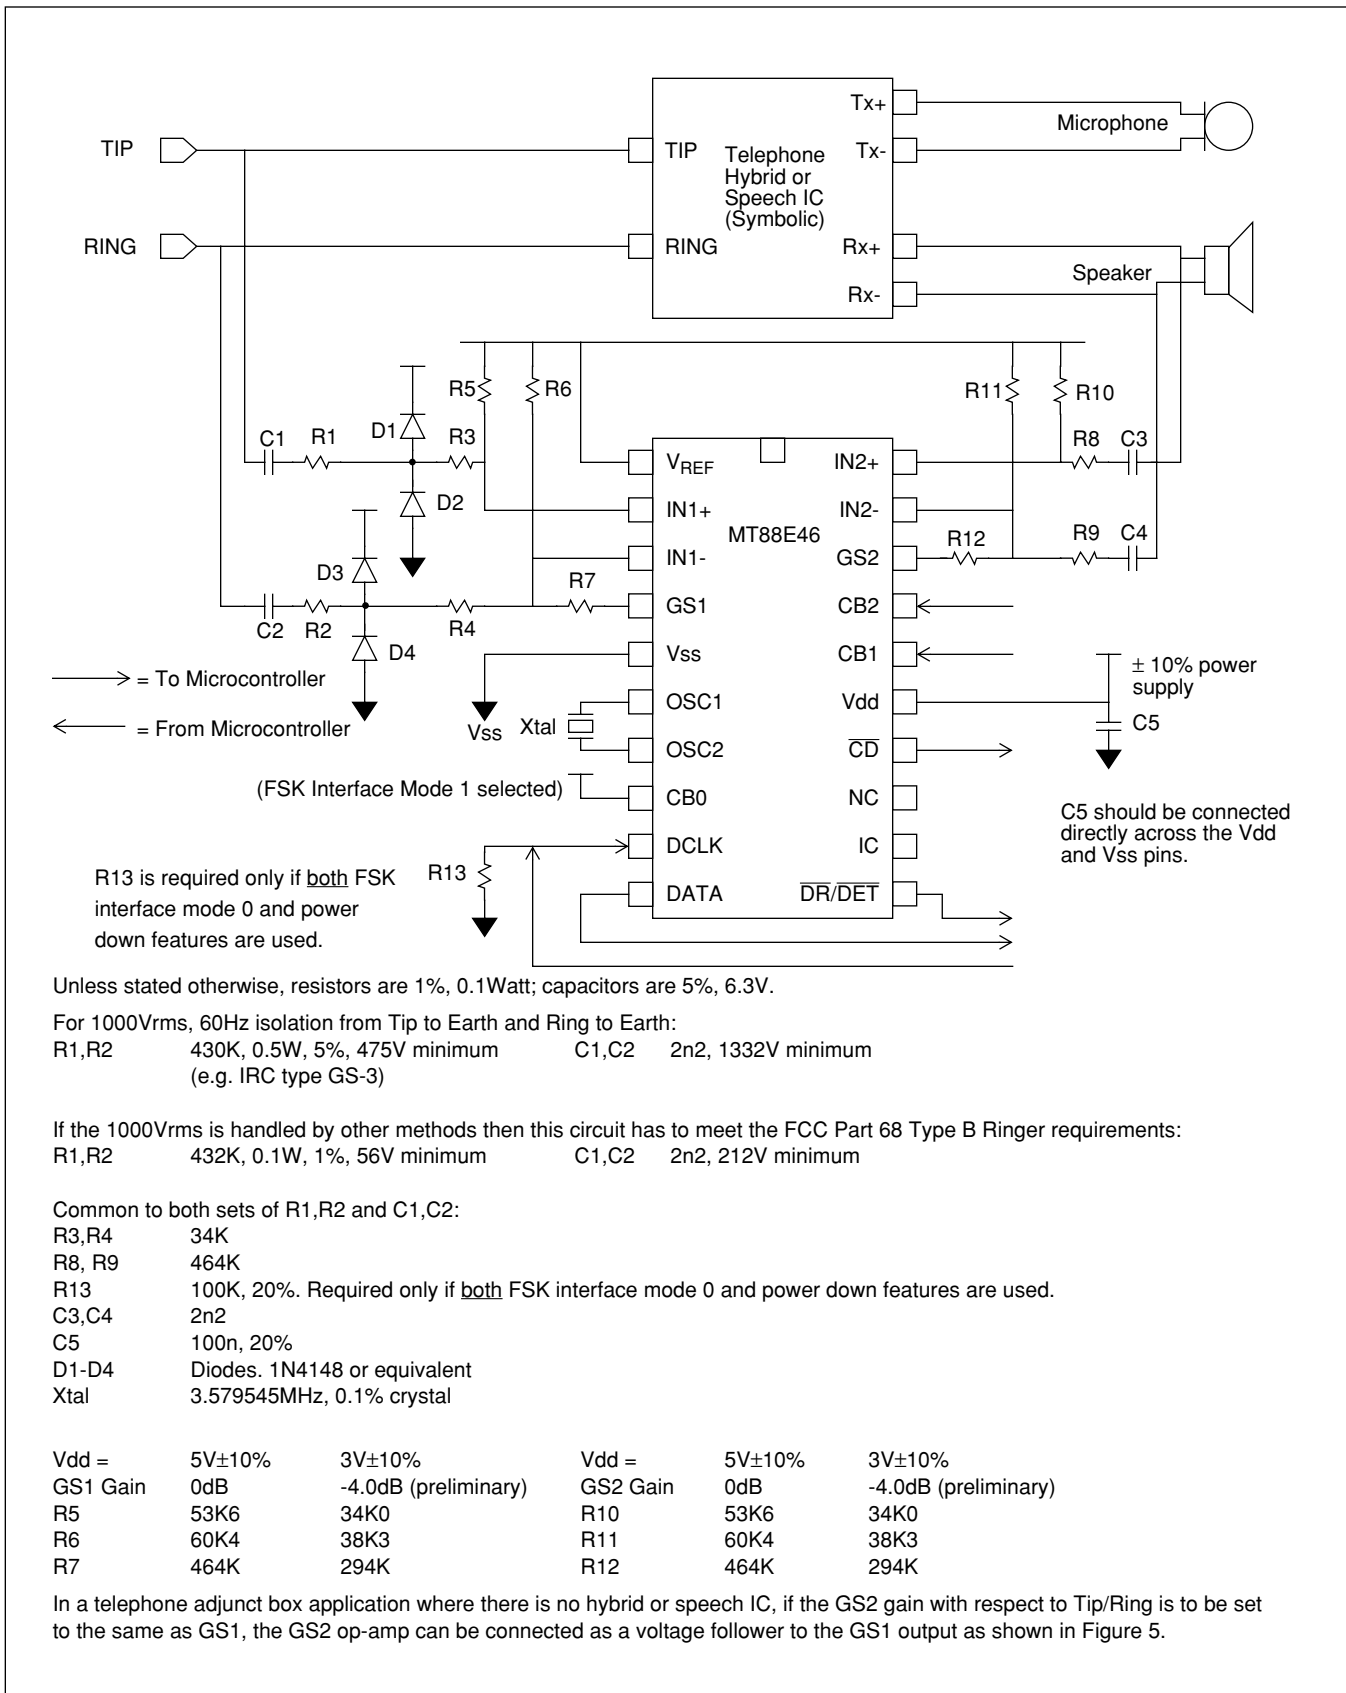

Figure 8 - Application Circuit: MEI Compatible Type 2 Telephone
The MT88E46 can be powered down to consume virtually no power supply current via a state of the CB0/1/2 pins. Momentary transition of CB0/1/2 into the power down code will not activate power down. In power down mode both input op-amps, V_{REF} and the oscillator are not operational; DCLK becomes an input pin because to select the power down state CB0 is 1 which selects FSK interface mode 1. If the application uses FSK interface mode 0 and the MT88E46 needs to be powered down, then during power down the input state of the DCLK input must be defined, for example, by a pull down resistor (R13 in Figure 8) so that the MT88E46 will draw minimal power supply current. When the MT88E46 is powered down DATA, $\overline{DR}/\overline{DET}$, \overline{CD} are high.
- For the GS1 op-amp, start with the 0dB gain setting resistor values of R5_{0dB}, R6_{0dB} and R7_{0dB}. In Figure 8 they are 53K6, 60K4 and 464K respectively. Keep R1, R2, R3, R4, C1, C2 as in Figure 8 to keep the input highpass filter corner frequency constant for all gain settings.